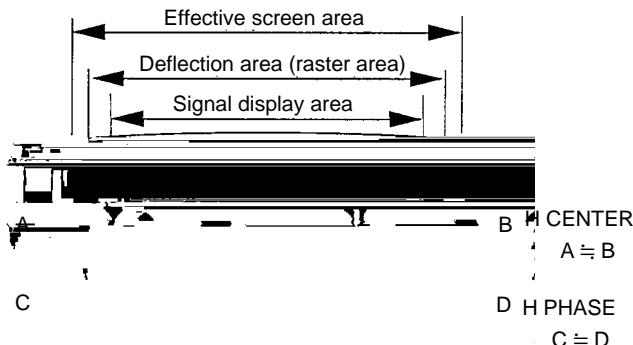

Fig. 1-6
- Adjust the H CENTER data so that the raster is position just in the center of the screen (so that A ≈ B). (Fig. 1-6)